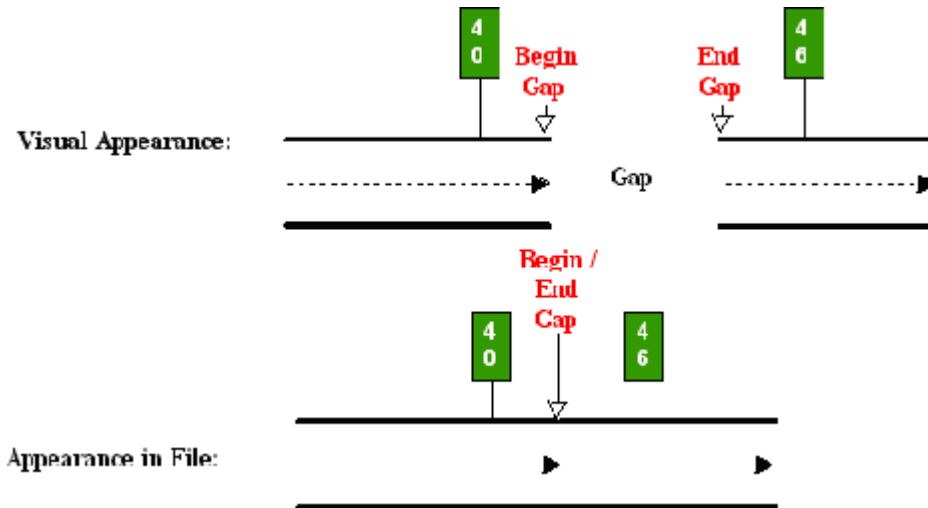

Figure 9-2. How the TRM system “sees” a roadway gap.
- ◆ **Roadway Gaps** do not have any mileage associated with them. Because the roadway gap is not driveable, there is no distance recorded between the beginning and ending of the gap. Figure 9-2 below shows what a gap looks like on the road versus what it looks like in the file: The begin and end points are physically separated on the roadway, yet occupy the same space in the file: